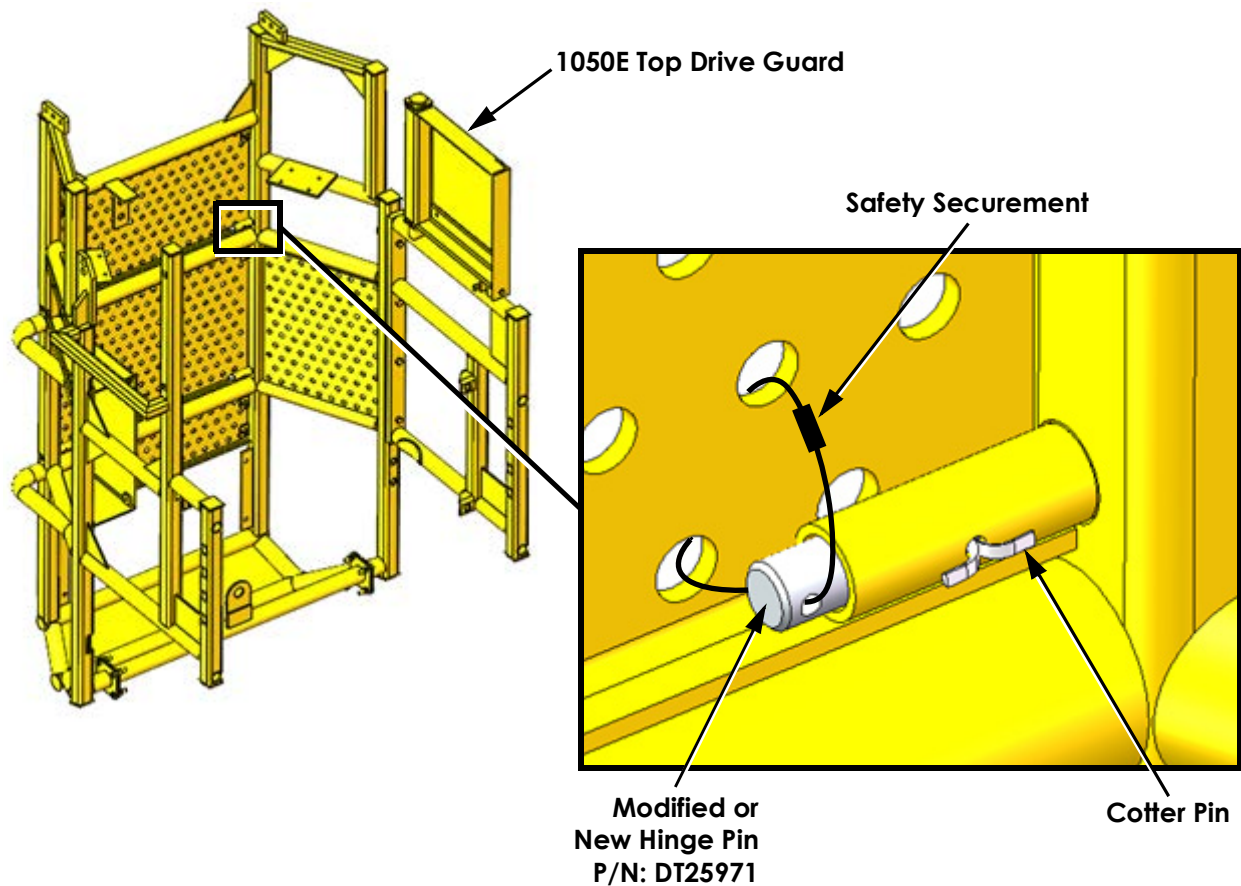

Figure 2: Safety Securement Installation
1. Install the pins as shown in Figure 2.
2. Secure the top drive guard hinge pin to the access cover panel with minimal slack in the wire rope as shown in Figure 2.